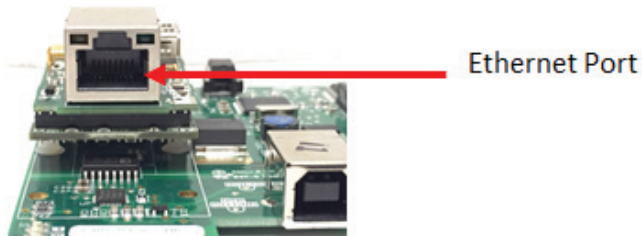

Figure 22: Ethernet Port Location
4. Disable any wireless Ethernet adapters on the PC/Laptop. See **Figure 22**.